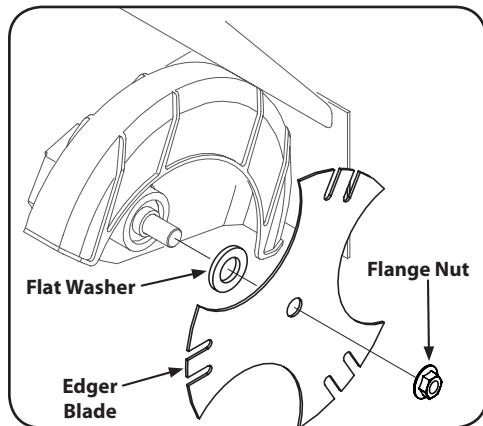
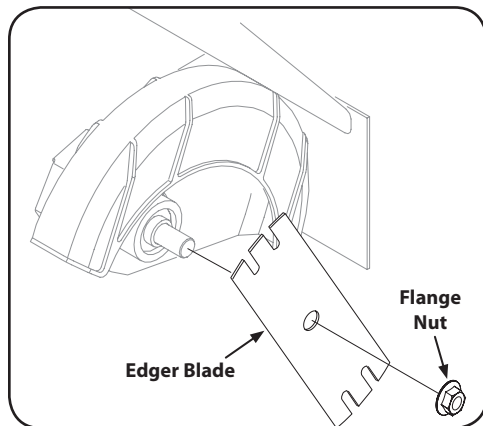

Figure 4-1
Figure 4-2
1. Use two wrenches (one wrench to prevent the hex bolt head from spinning and the other to remove the flange nut) to remove the edger blade. Refer to Figure 4-1 for 550 series edgers equipped with tri star blade. Refer to Figure 4-2 for 520 series edgers equipped with standard edger blade.